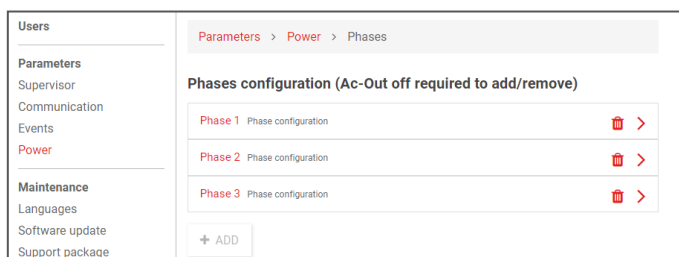

Figure 5: Inview S - Phase configuration
- Go to “Phases” page (Administration (⚙️) > Parameters > Power > Phases), set the number of phases depending upon the system’s final configuration. By default, Phase 1 (single-phase) will be enabled. Click “+ ADD” and “🗑️” button to add and delete phases. (Figure 5)